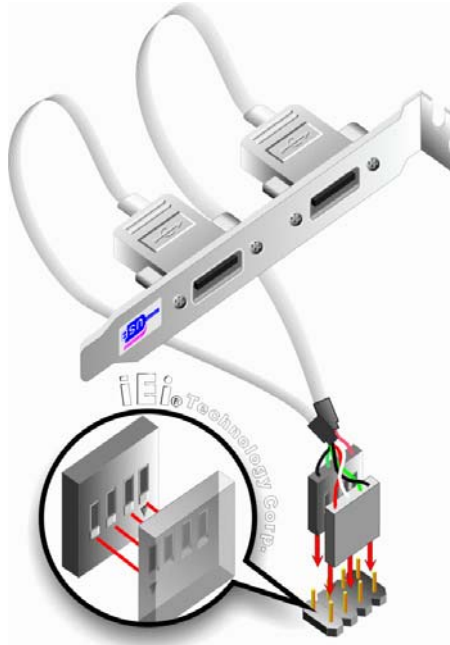

Figure 4-12: Dual USB Cable Connection
Step 3: Insert the cable connectors Once the cable connectors are properly aligned with the USB connectors on the PCIE-G41A2, connect the cable connectors to the on-board connectors. See **Figure 4-12**.